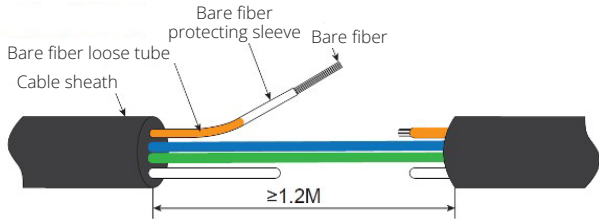

Figure 1-9: Strip the uncut cable
- 8 Strip the sheath of the uncut cable for a suitable length ≥ 4 ft. (1.2 m) (Figure 1-9).